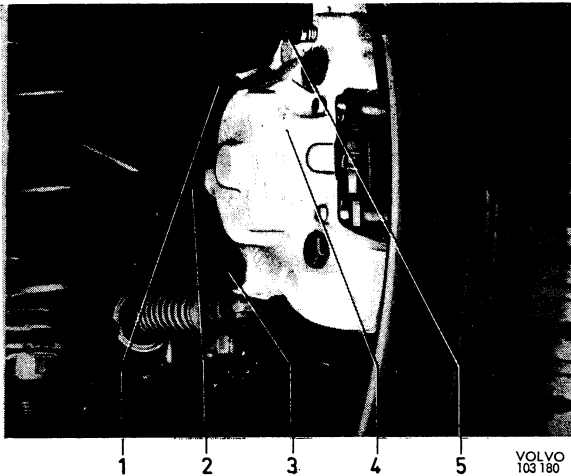

Fig. 5-25. Rear wheel brake unit fitted
3. Disconnect the pipe connection (2, Fig. 5-25) from the caliper and fit a protective cover on the
brake line. Remove the attaching bolts (1 and 3, Fig. 5-25). Remove the brake caliper, see Fig. 5-26.
2. Connect the brake line, see Fig. 5-25. Remove the plug for the vent-hole in the brake fluid container cover.